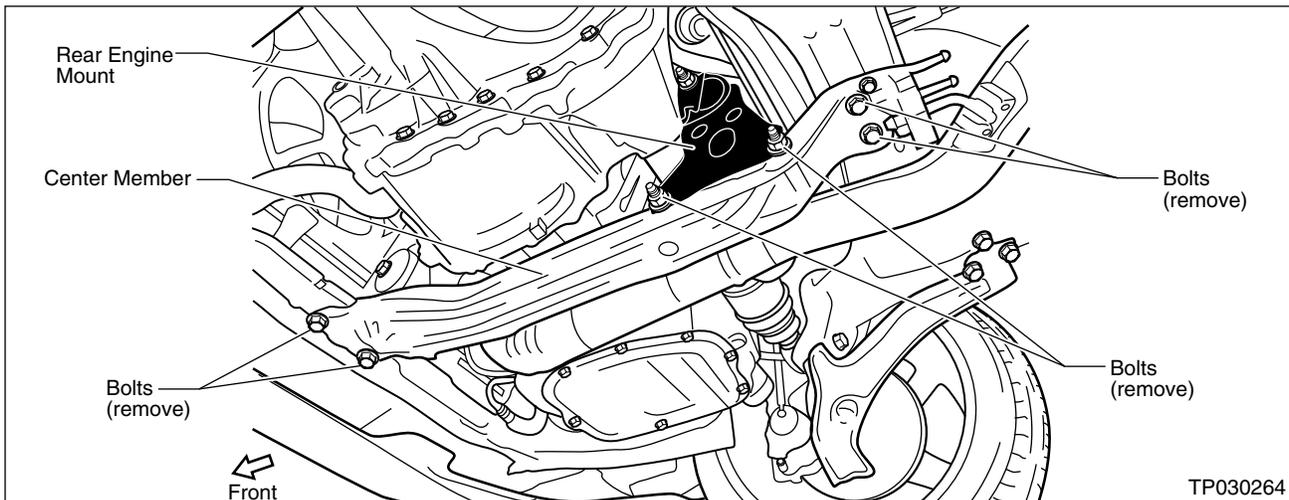

Figure H4
- Remove the Center Member, but leave the Rear Engine Mount on the engine (see Figure H4).